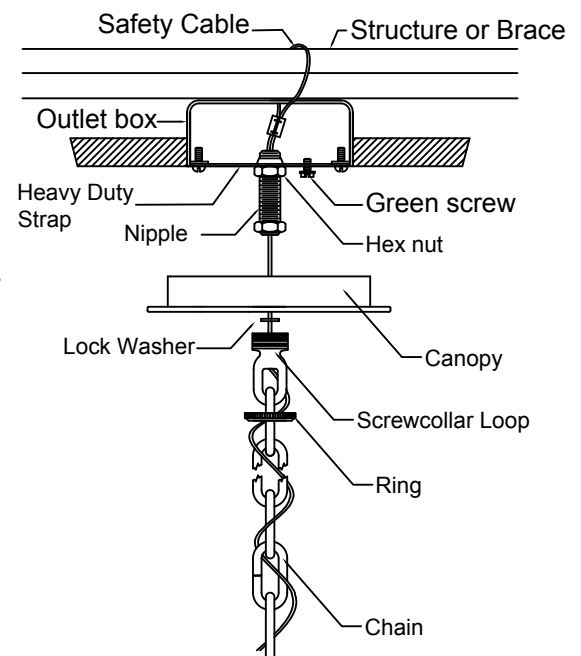

FIGURE-1
1. Attach the heavy duty strap to the outlet box. (The green screw should face the floor). Attach the safety cable to the building structure or brace (See figure-1).